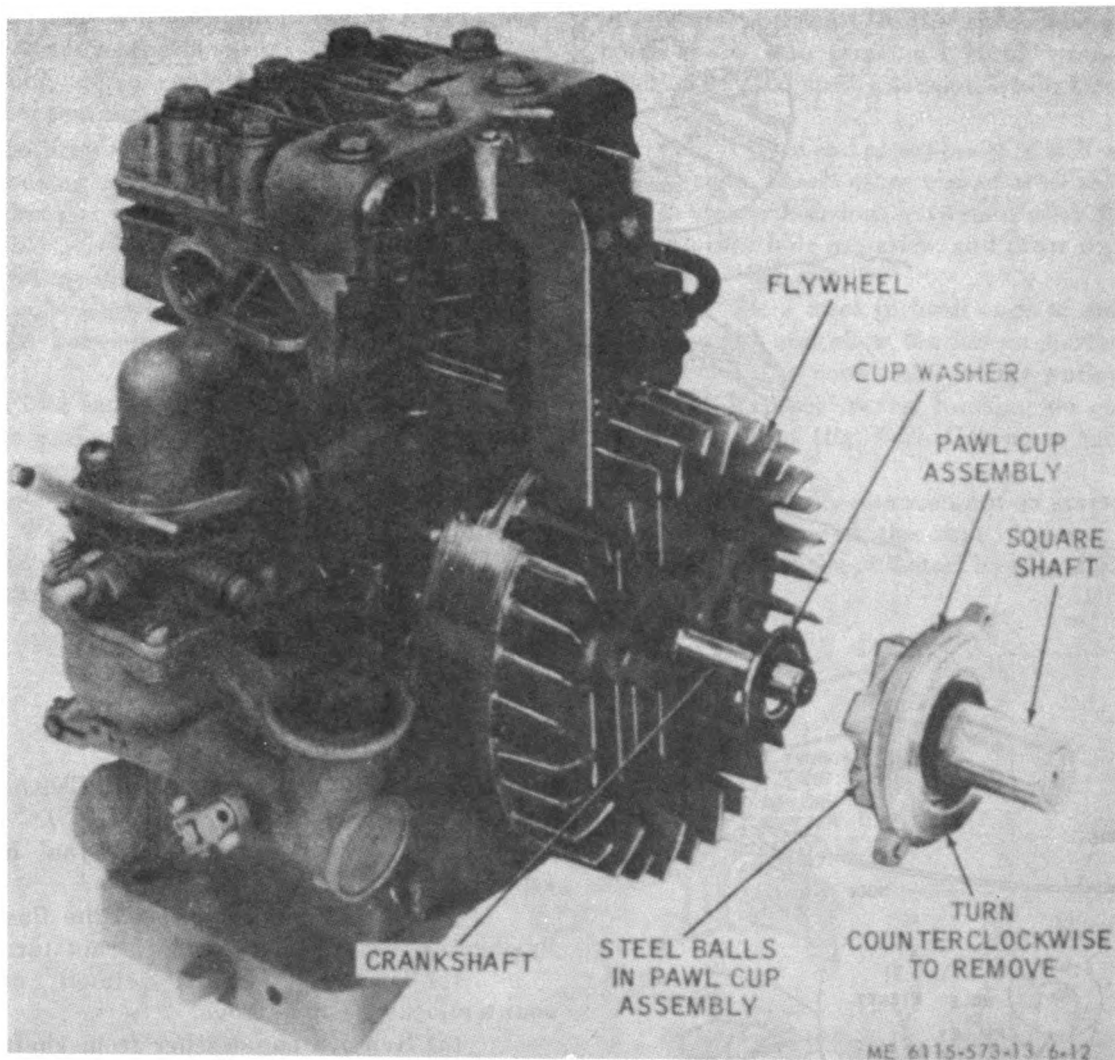

Figure 6-12. Starter clutch assembly removed.
(1) **Removal** (fig. 6-12 and 6-13).
(b) Install cup washer and starter clutch assembly on crankshaft (fig. 6-12).